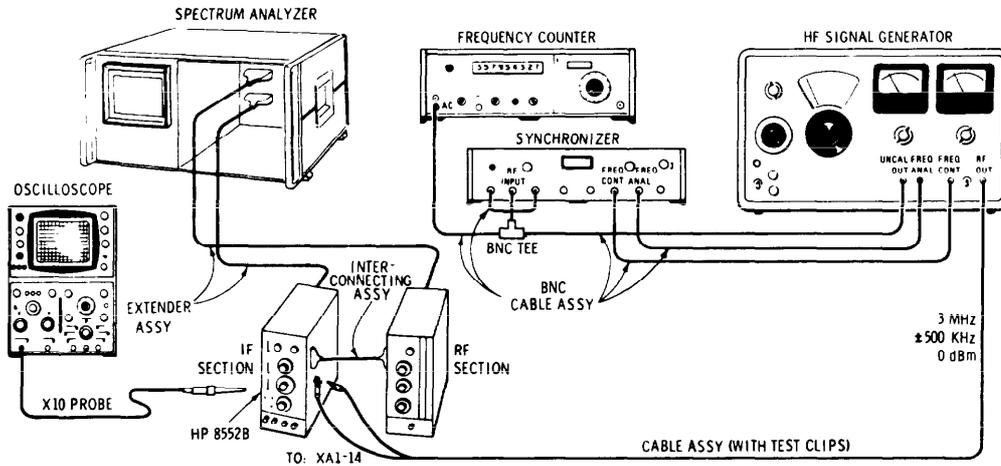

Figure 5-7. Crystal Filter Fine Adjustment Test Setup
- CABLE ASSEMBLY (6) HP 10503A
1. Remove A2 3 MHz Amplifier Assembly, connect the test setup in Figure 5-7 and make the following control settings: